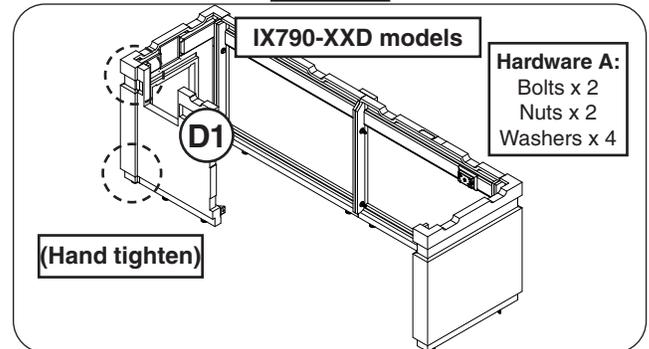

Fig. 10-2 Assemble front wall (left piece)
1. Orient the left front wall piece (D1) and repeat the hardware installation process (hardware kit A). Hand tighten only. See Fig. 10-2.